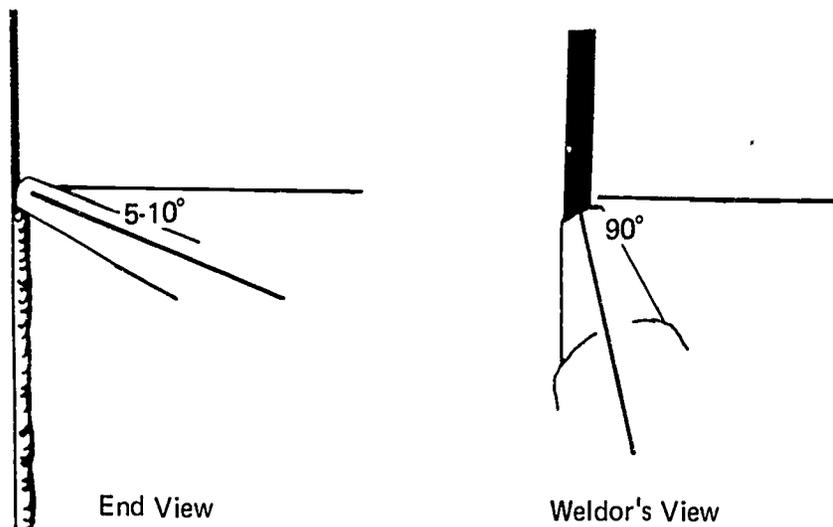

FIGURE 6
- H. Position electrode straight into joint (90°) and angled 5° - 10° upward (Figure 6)